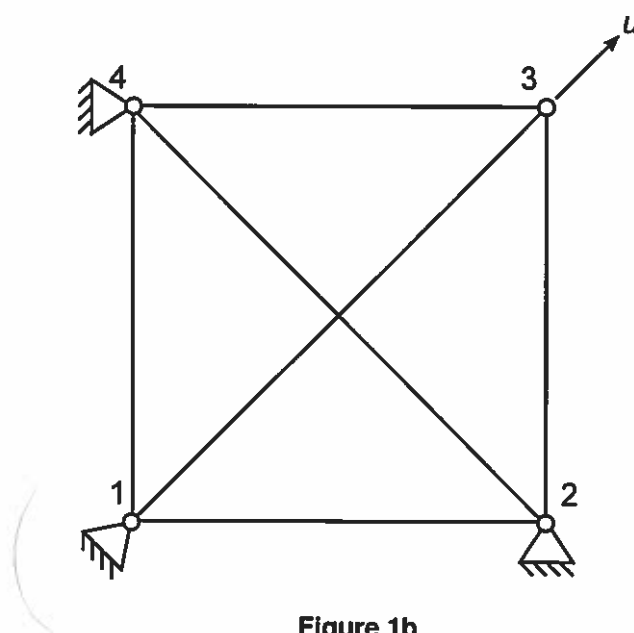

Figure 1b
- (b) In the pin-jointed framework shown in Figure 1b, all members have Young's modulus  $E$ , constant cross section area  $A$ , and coefficient of thermal expansion  $\alpha$ . The horizontal and vertical members all have length  $L$  and the diagonal members are oriented at  $45^\circ$  to the horizontal. The nodes are numbered as shown. Bar 13 is subjected to a temperature change of  $\Delta T$  which results in the displacement  $u$  of node 3 which by symmetry is oriented along the same direction as bar 13. Geometric relationships between the bar extensions and the displacement  $u$  are tabulated below.